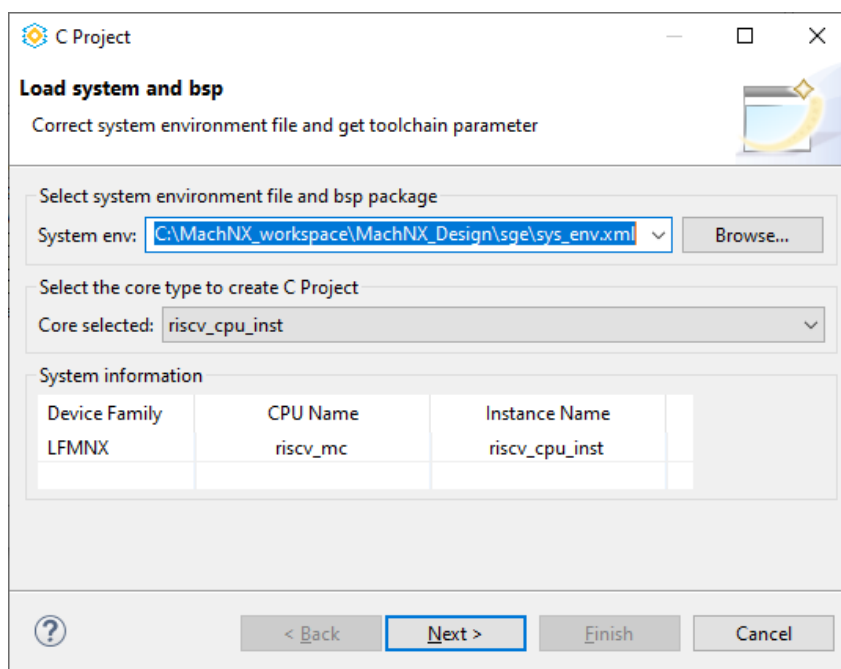

Figure 3.15. C Project Options
1. In the Lattice Propel 1.1 workspace, click **File -> New -> Lattice C Project**. This opens the C Project wizard **Load system and bsp** and **bsp** page, as shown in Figure 3.15.